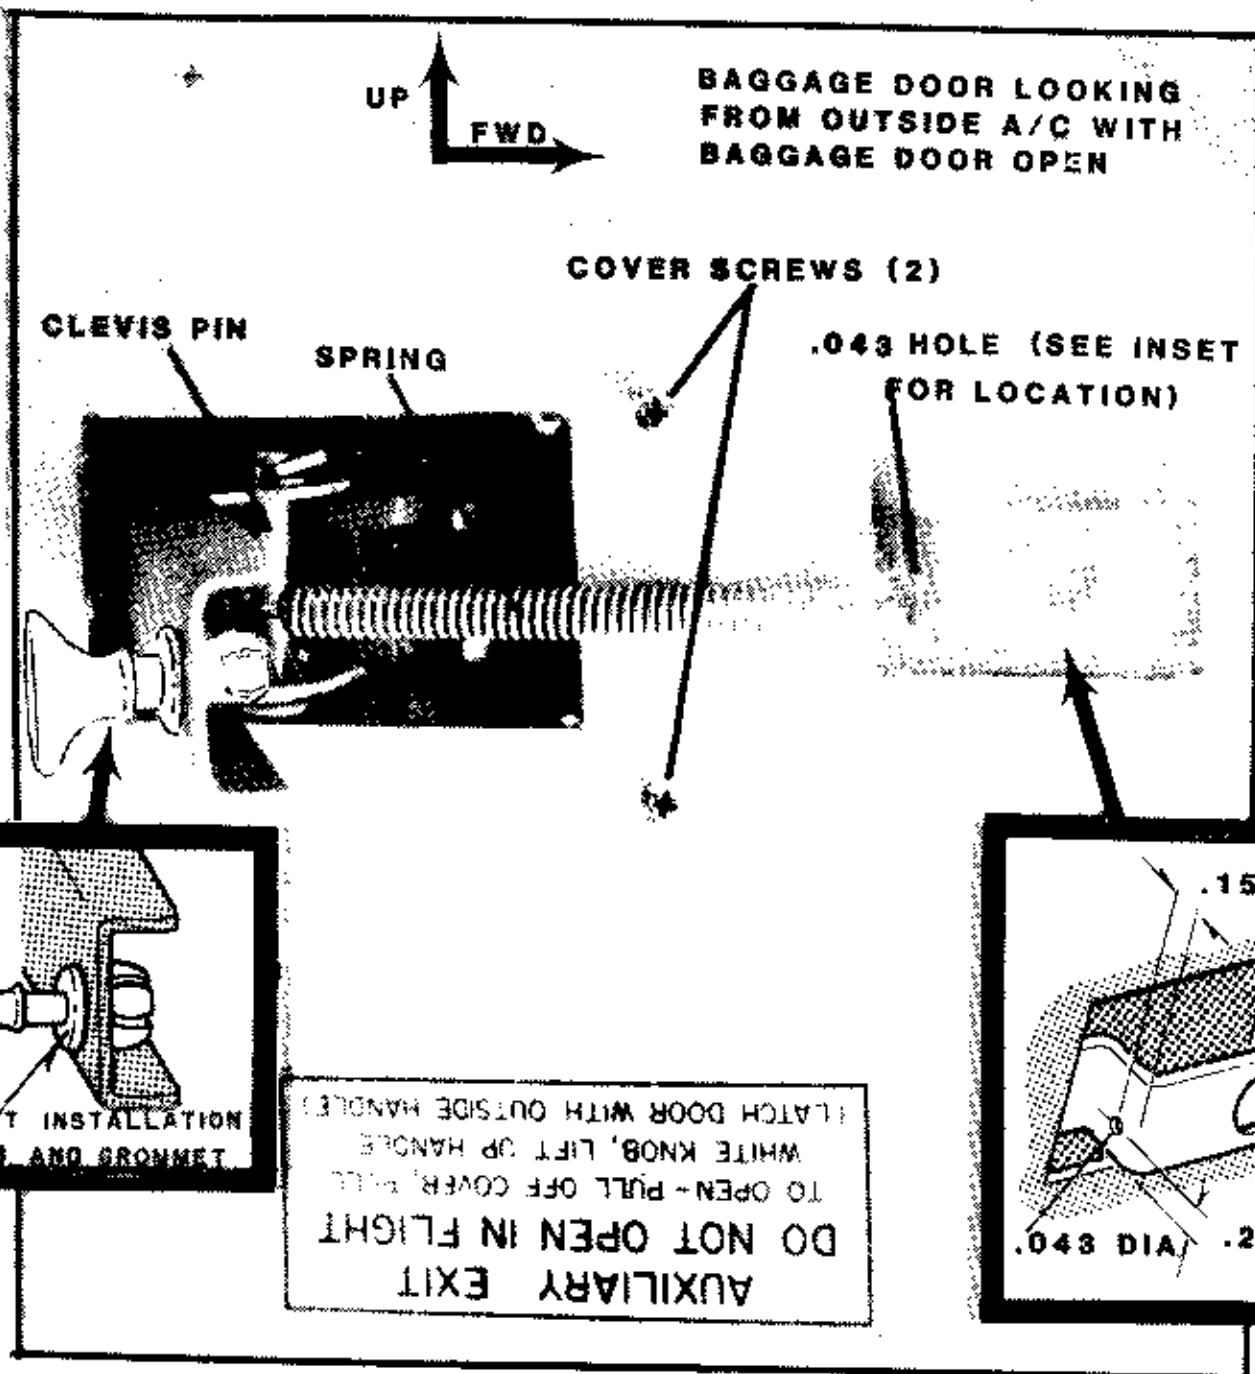

FIGURE 1
3. Check white plastic (nylon) knob and grommet to verify correct installation. (See figure 1).
4. Pull red handle fully open; mark, center punch and drill a .043 dia. hole in the clip, P/N 350191-5, (see figure 1 insert for location).
NOTE: The existing AN393-35 clevis pin will require removal from handle assembly to allow the new pin to be used. (see figure 1).